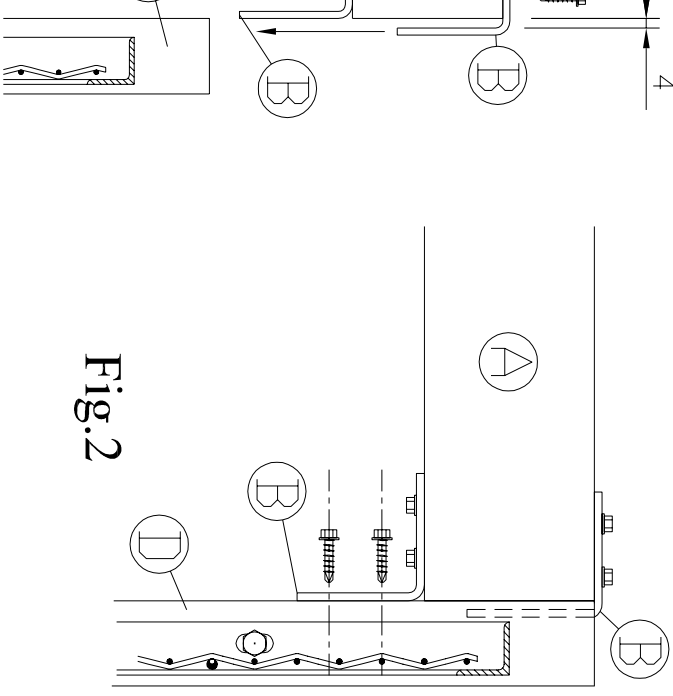

Fig. 2
5. Lift ceiling tube (A) above the partition wall post (D) and lower into place so that the top bracket fits inside of wall post (D) Per Fig. 2.